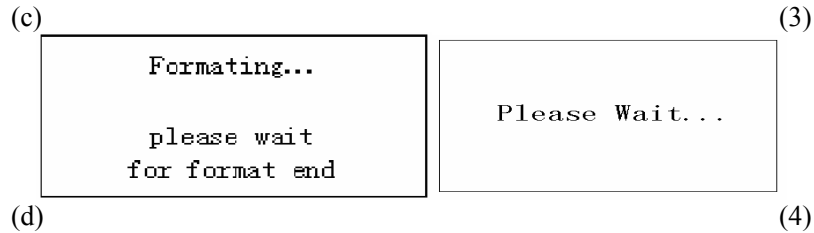

Figure 6: Formatting SD card
- 1 In MENU, press the UP or DOWN key until the system enters the format menu, as shown in Fig. 6(a) and 6(1).
- 2 Press the OK key. The system will ask you to confirm, as shown in Fig. 6(b) and 6(2).
- 3 If you want to proceed the formatting process, press the RIGHT key to change the value to 『YES』. 『YES』 will be highlighted, as shown in Fig. 6(c) and 6(3).
Press the OK key to start formatting the SD card. During formatting, the guide information will be changed, as shown in Fig. 6(d) and 6(4).